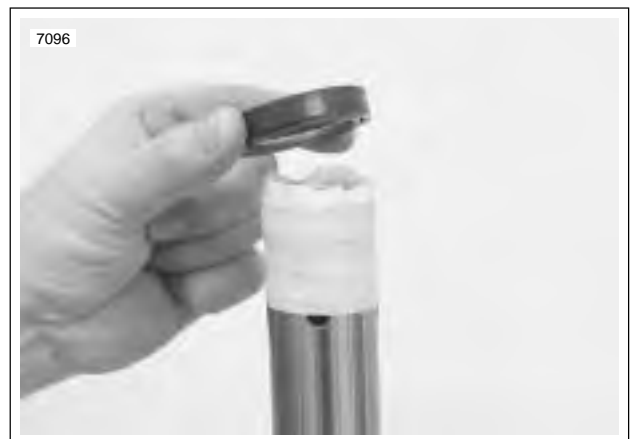

Figure 2-60. Slide Pipe Protection
- See Figure 2-60. Wrap the end of the slide pipe and the slide bushing channel with tape to avoid damaging the oil seal lip when installing.